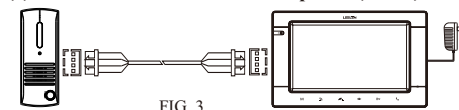

FIG. 3
(1) 1 outdoor station and 1 indoor phone (FIG.3)